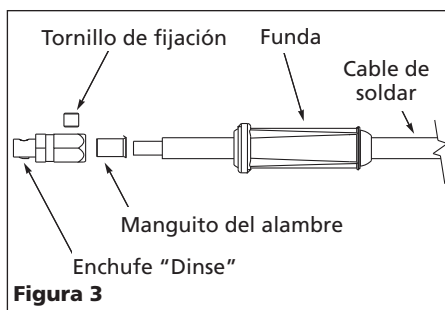

Figura 3
**ENCHUFES "DINSE" (VER FIGURA 3)**